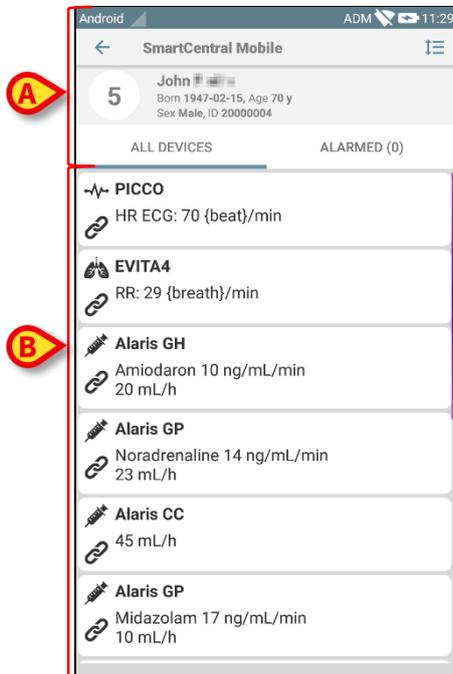

Fig 171
- Touch one of the squares on the “Central” screen (Fig 171).
This screen is formed of two areas: a heading area (Fig 171 **A**) and the medical devices list (Fig 171 **B**).